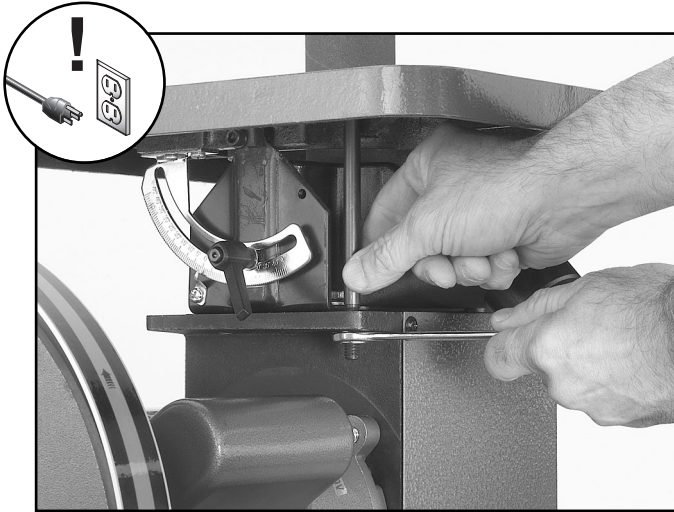

Figure 10. Squaring the sanding table.
5. If the table is not 90° from the spindle, adjust the table stop bolt to allow the table to move more as shown in **Figure 10**.